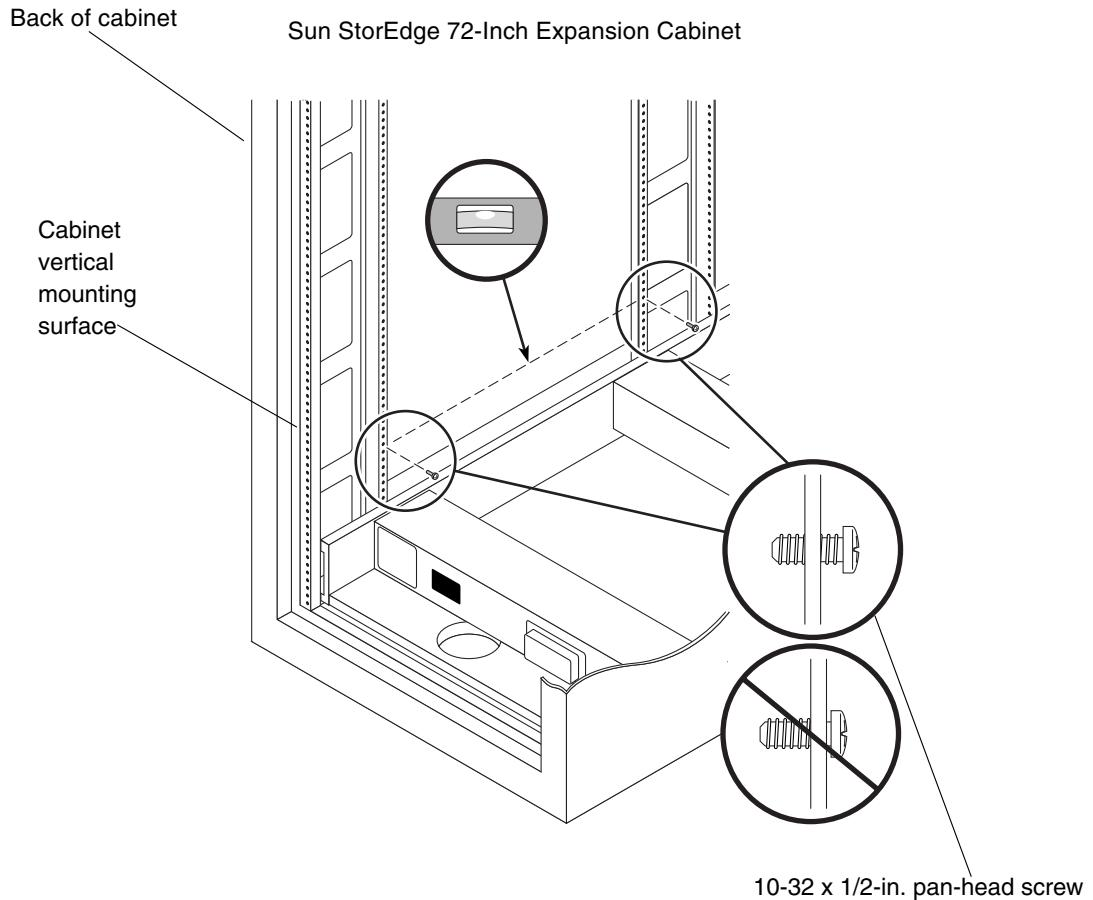

FIGURE 4-3 Installing Two Screws Before Installing the Mounting Rail
2. Partially install two of the 10-32 x 1/2-in. pan-head screws as shown in the cabinet vertical mounting surfaces. See FIGURE 4-3.